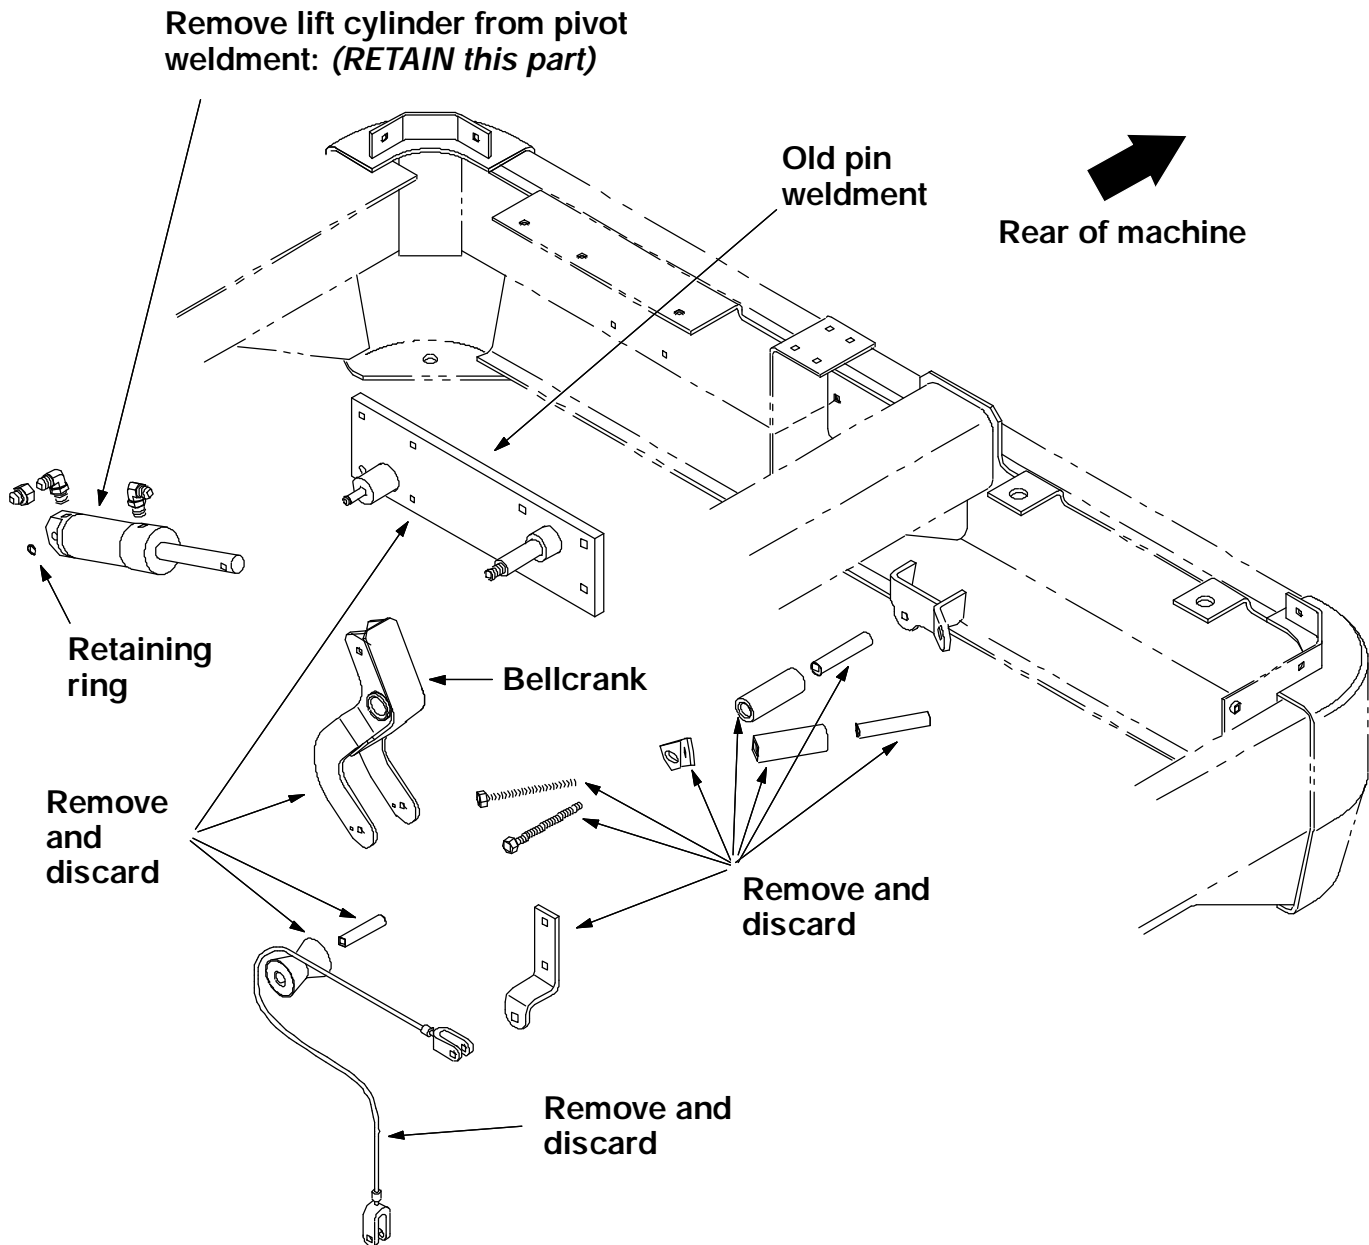

FIG. 1 – Remove And Discard The Parts Indicated
(Refer to Fig. 1)
2. Remove and discard the cotter pin and clevis pin holding the lift cable to the squeegee frame. Remove the lift cable from the squeegee frame. (Refer to Fig. 1)
3. Remove and retain the retaining ring holding the piston end of the rear squeegee lift cylinder to the old pin weldment. (Refer to Fig. 1)
4. Remove and discard the cotter pin and clevis pin holding the rod end of the rear squeegee lift cylinder to the top hole in the bellcrank weldment. (Refer to Fig. 1)
5. Remove the rear squeegee lift cylinder from the old pin weldment. (Refer to Fig. 1)
(Refer to Fig. 1)*
6. Remove and discard the two hex screws holding the upper lift cable bracket to the old pin weldment. Disconnect the lift cable from the upper lift cable bracket. Remove and discard the upper lift cable bracket. (Refer to Fig. 1)
7. Remove the two hex screws and nyloc nuts holding the angle plate and two plastic rollers to the bracket on the machine frame. Discard hardware, plastic rollers, angle plate, and sleeves. (Refer to Fig. 1)
8. Remove and discard the six remaining hex screws holding the old pin weldment and bellcrank assembly to the machine frame. Remove and discard the old pin weldment. (Refer to Fig. 1)